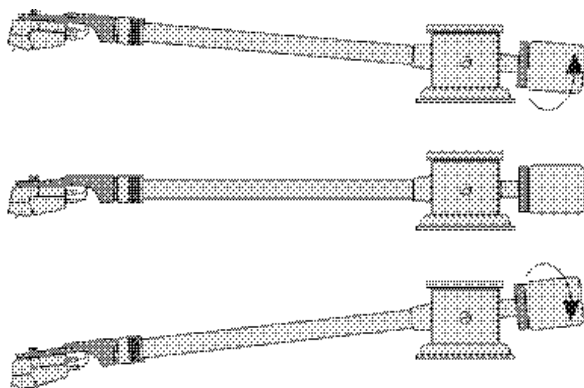

Fig. 4: Tone arm balance
- 5 Lead the tone arm with the left hand to the side so that the stylus does not hit against the turntable platter. With the right hand turn the counterweight so that the tone arm remains exactly in a horizontal position and does not move upwards or downwards (Fig. 4).